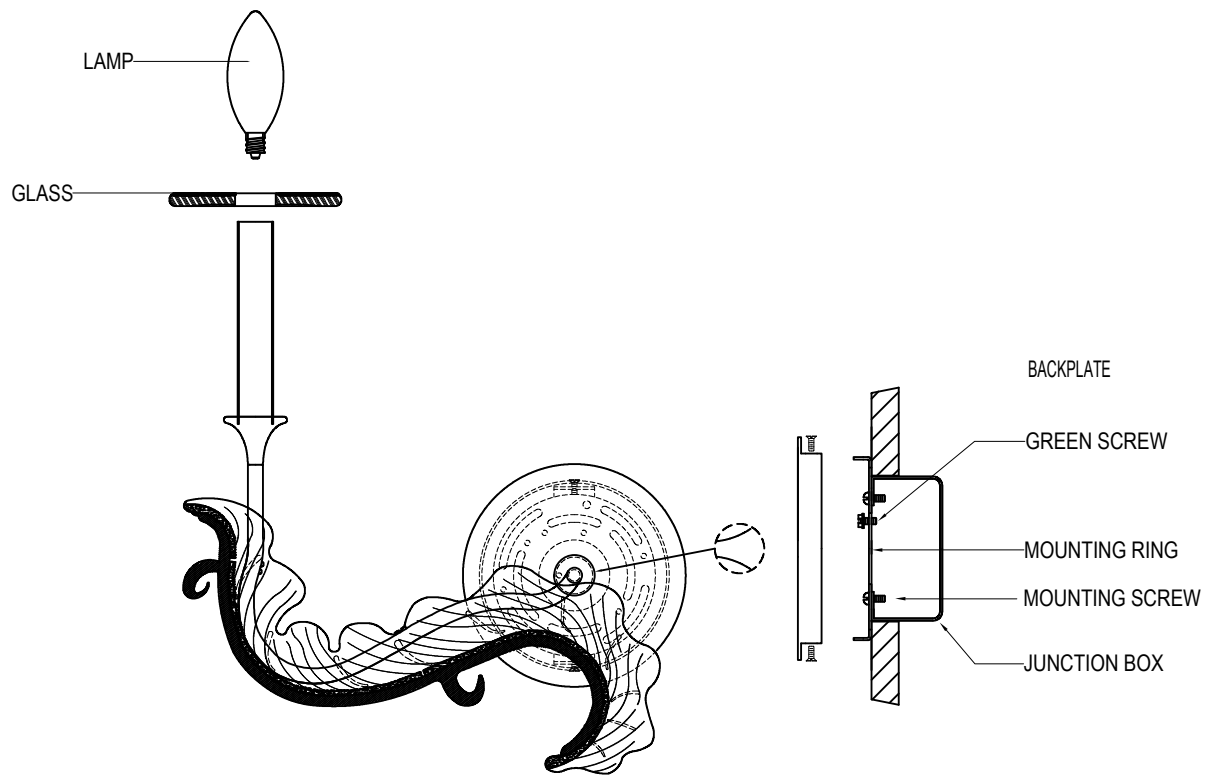

FIGURE-1
5. Using two (2) flat screws on the side of the back plate, fasten the back plate to the junction box.
6. Place the glass following the glass schedule as seen in figure-1.